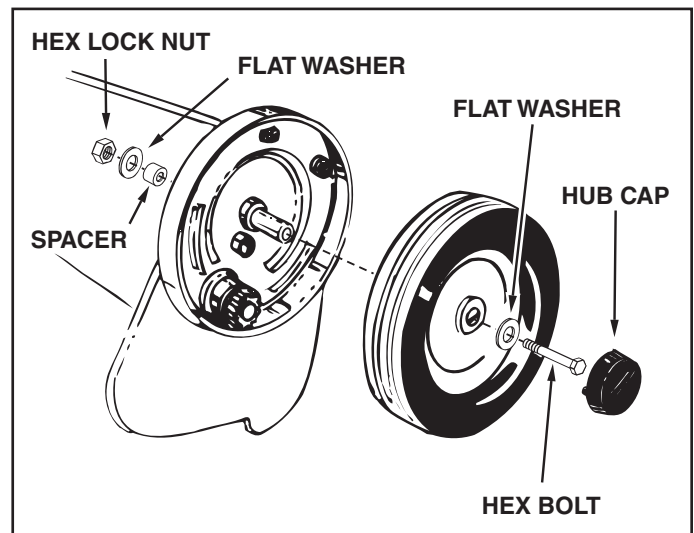

FIGURE 20
3. Every two years, remove the wheels and clean the gears found inside the wheel housing. After cleaning, lubricate with an even coat of light grease. To remove the wheel, pop off the hub cap using a screwdriver and remove the lock nut, flat washer and spacer from the end of the bolt inside the sweeper. See figure 20.